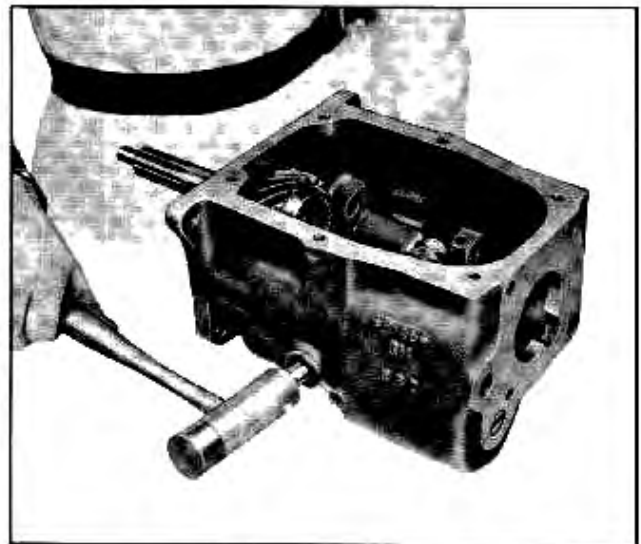

Fig. 7-16 Removing Selector Shaft
12. Pull selector shaft to left and remove interlock retainer from groove in right end of selector shaft and using a soft hammer drive the shaft out through right side of transmission case (See Fig. 7-16). The Welch